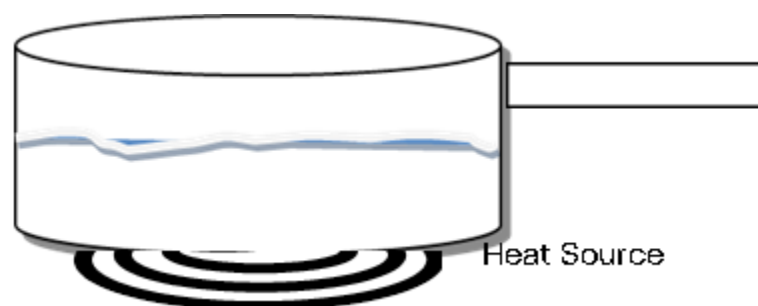

Figure 10: Sample set-up for Step 1. A pot with 500 mL of water rests on a stove-top burner.
1. In a cooking pot add 500 mL of tap water, place on the stovetop and bring the water to a boil. Set a stopwatch for 3 minutes. Once it has boiled for three minutes, reduce the heat from a boil to a simmer. (See Figure 10).